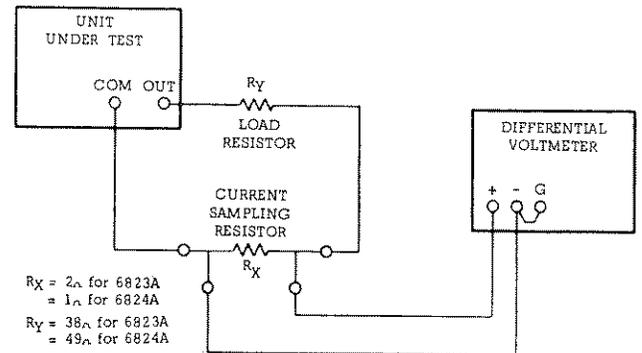

Figure 5-3. Output Current, Test Setup
- a. Connect test setup shown in Figure 5-3.